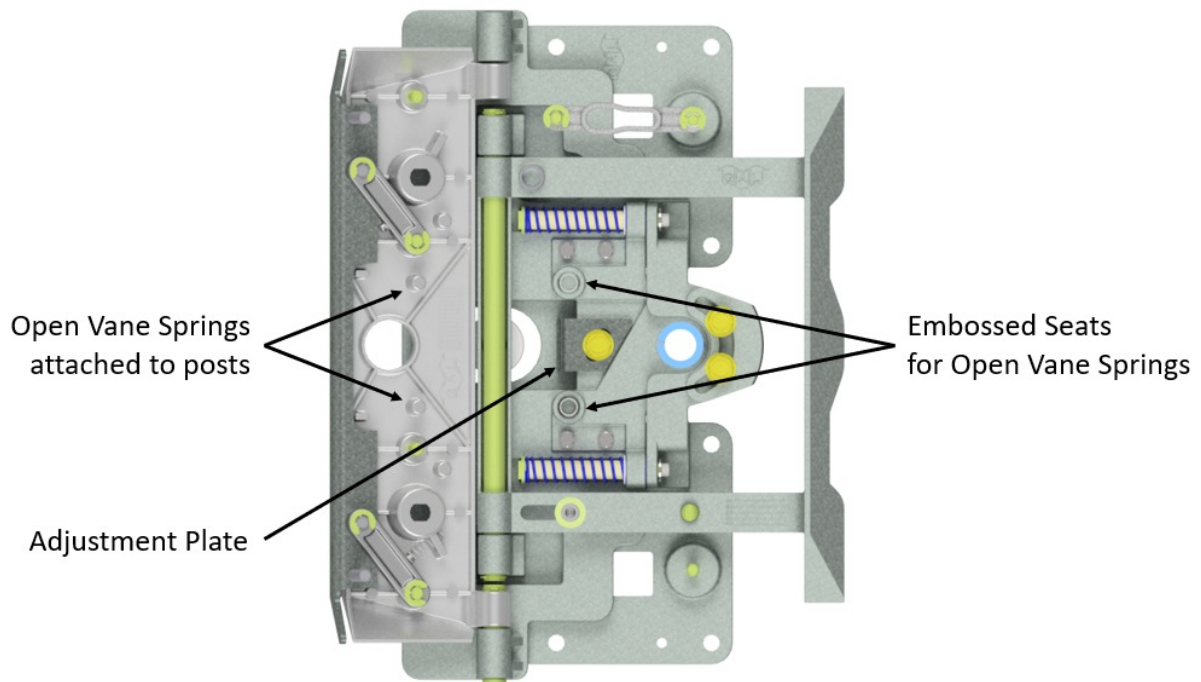

Figure 13: The LWL Clutch with the Open Vane flipped open.
3. After setting the Adjustment Plate in the desired spot, carefully close the Open Vane, ensuring that the ends of the Open Vane Springs are seated in the embossed circles on the clutch. See **Figure 13**.